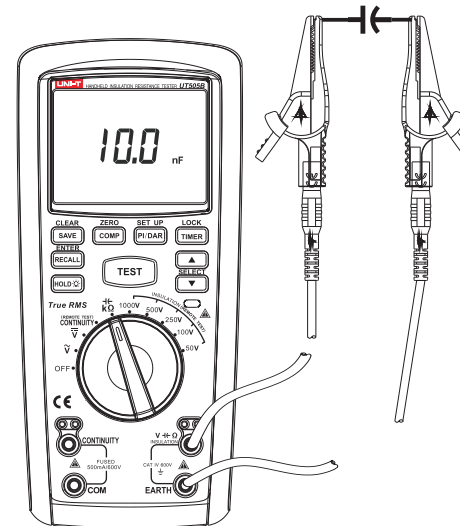

Figure 8
4.2 Measuring of Capacitance (See Figure 8)
- ① Insert the red probe into "V" jack (red jack), and black one into "EARTH" jack (black jack).
- ② Rotate dial switch to "KΩ/⚡" tap position and connect the probe to two ends of tested capacitance in parallel.
- ③ Press "▼/SELECT" to select capacitance tap position.
- ④ Read current measuring value of capacitance from the display.
- ⑤ In measuring, if intending to save measured capacitance, press the key of "SAVE/CLEAR" for saving.